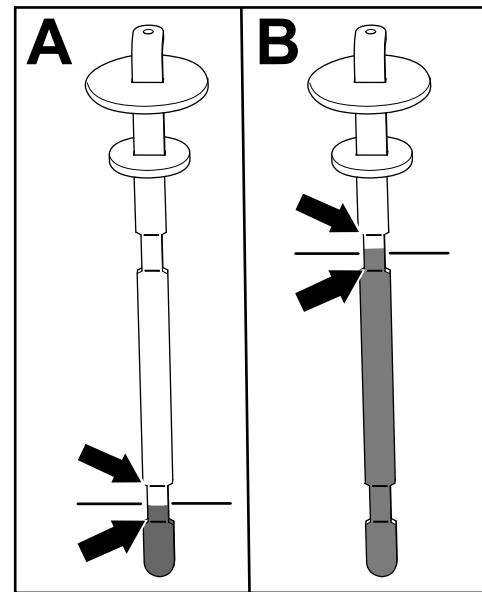

Figure 82
5. Remove the dipstick and check the fluid level (Figure 82).
- **If you have a cutting unit equipped:** The hydraulic-fluid level is at the appropriate level when the fluid appears between the lower 2 marks on the dipstick (A in Figure 82). It is also acceptable for the fluid level to be above the lower marks.
- **If you have the Hydraulic Driven Attachment Hose Kit equipped:** The hydraulic-fluid level is at the appropriate level when the fluid appears between the upper 2 marks on the dipstick (B in Figure 82).